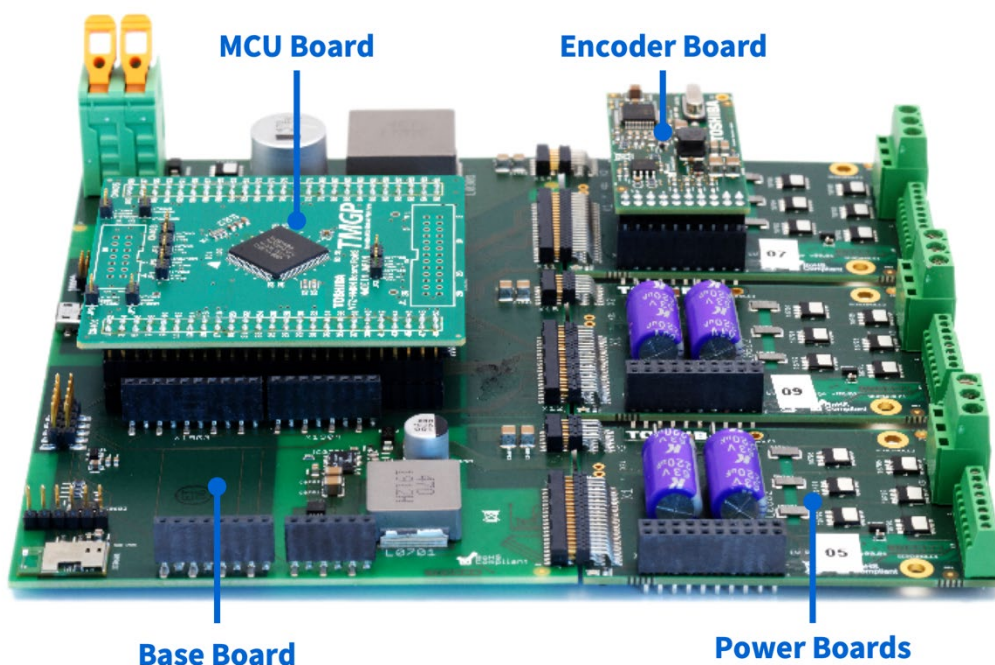

Figure 1: The Servo Drive RM is highly modular, allowing a broad range of servo motor approaches to be trialled and implemented.
To simplify the efforts of engineering teams starting along this road, Toshiba has developed a highly flexible and configurable Servo Drive Reference Model (RM) that combines all the elements needed (figure 1). Consisting of a main board that links all the pieces together, the modular approach allows the controller, power stage, and encoder or resolver used to be swapped in and out, allowing rapid evaluation of the pros and cons of different approaches.